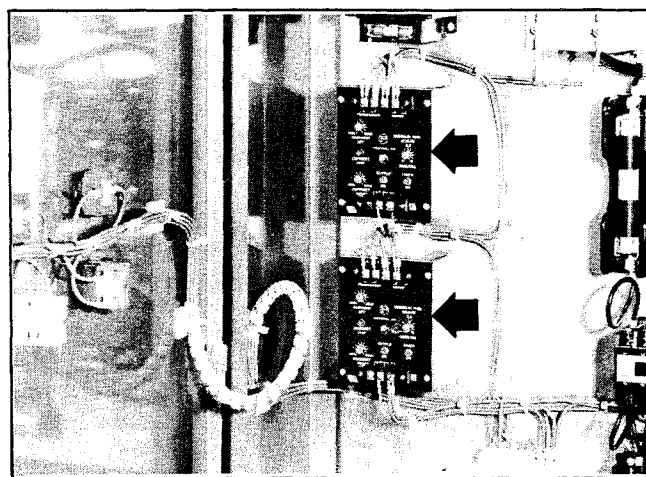

Figure 5. Current Sensing Relays for the Duplex Power Management option
Option # 10 for a Duplex System consists of one (1) additional current monitor in the control panel for a total of two (2). (See Figure 5). For a triplex system three (3) current monitors are required.